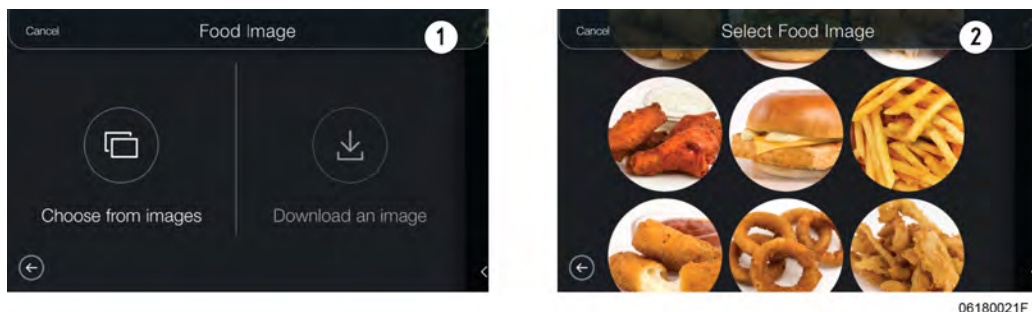

Figure 5-13
6. **Food Image** - This step allows you to select a food image for the food item. Choose from image lets you select an existing image from the control. Download an image lets you select an image you provide on a USB drive, see (1) in Figure 5-13 , page 48. To **Choose from image**, tap the icon above the text Choose from image, then Swipe up or down to locate your desired image from the available images, see (2) in Figure 5-13 , page 48. Tap the image to select it, then tap **OK**.